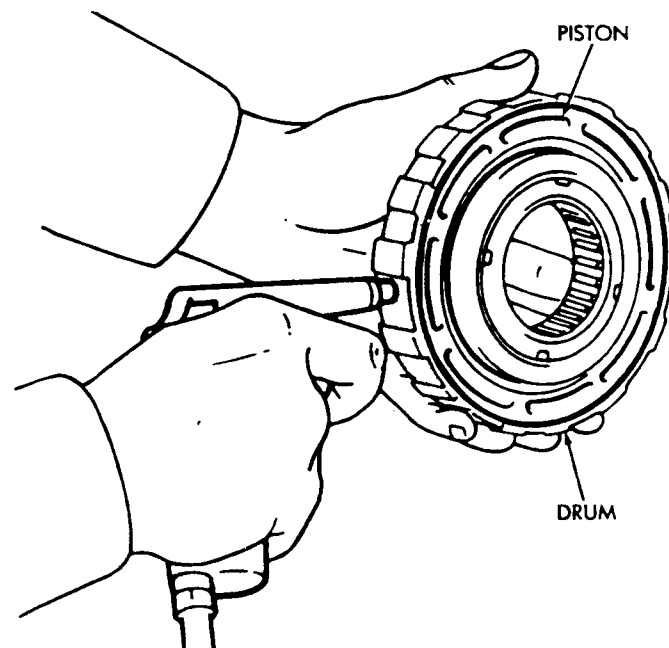

Fig. 7 Checking Piston Operation
(1) Lubricate and install new O-rings on brake piston. Then install brake piston in drum.
(2) Install return springs and retainer on brake piston.
(3) Compress return springs with tool B.Vi. FM-27 and install piston snap ring.
(4) Check brake piston operation with low pressure compressed air (Fig. 7). Apply air pressure through feed hole in drum. Piston should move smoothly when applying-releasing air pressure.